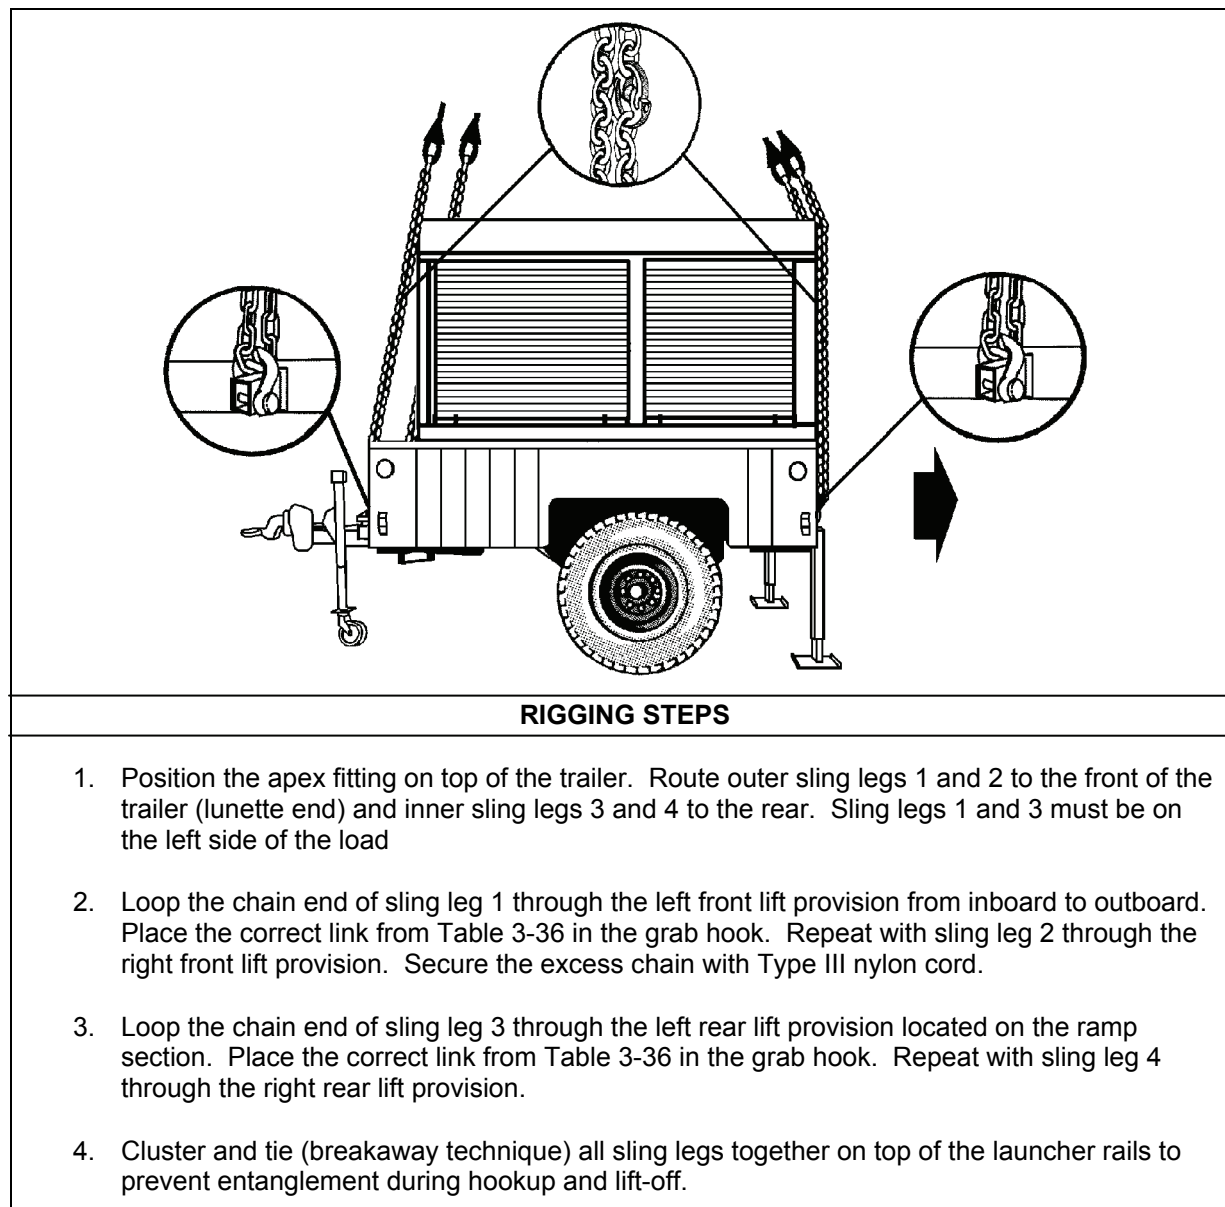

Figure 3-36. Petroleum Quality Analysis System Trailer
- **Rigging.** Rig the load according to the steps in Figure 3-36.